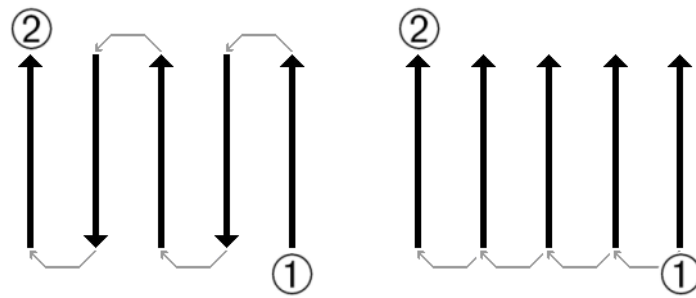

Figure 20: Given manner
You have to scan in a given manner that the software can calculate the measured values in the right way. The given manner depends on the device you are using. Figure 20 shows two different ways of scanning in a scheme. The measurement starts at your starting point ① and ends at point ②.